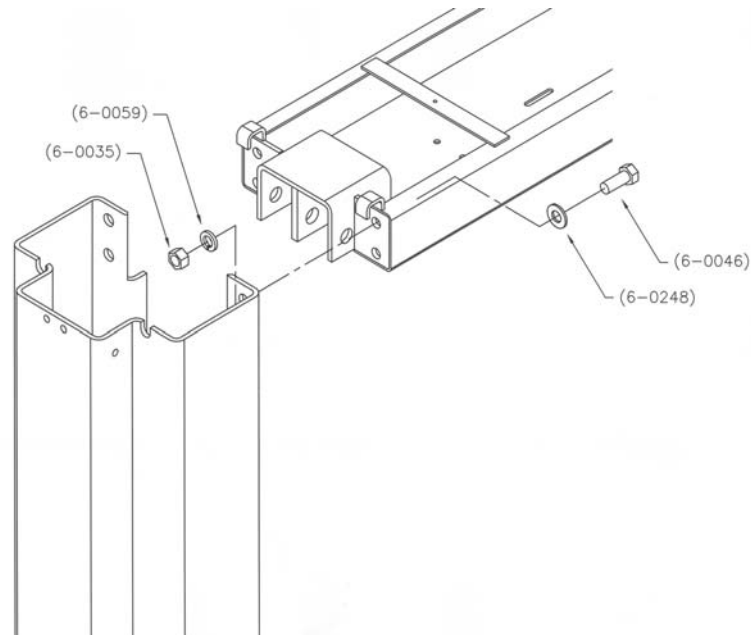

Figure 4 – Crossmember Assembly
Note: The safety shut off will disconnect the power to the power pack when an obstruction touches the padded bar or the carriages reach their maximum height. The safety shut off switch is factory pre-wired. Refer to Figure 4.
2. Using a stepladder, install the crossmember using eight (8) ½”-16UNC x 1 ¼” lg. hex head bolts, eight (8) ½” ID lock washers, eight (8) ½” hex nuts and eight (8) ½” flat washers. See **Figure 4**.
Refer to figure 4.
3. For 13ft. through to 16ft. installations, install the 90° degree conduit elbow to the actuator bar as shown in **figure 4**. The actuator extension should then be installed in the conduit elbow, and should be cut down depending on the installed height of the lift. For 14ft models, cut 24" from the extension, for 15ft models cut 12" from the extension, for 16ft models do not cut the extension.
4. For 12ft. installation, bolt the Actuator Extension (1-2143) onto the open end of actuator bar using two (2) $\frac{1}{4}$ " NC x 1 $\frac{1}{4}$ " lg. hex head bolts (6-0027), two (2) $\frac{1}{4}$ " ID lockwashers (6-0056), two (2) $\frac{1}{4}$ " NC hex nuts (6-0032) and one $\frac{1}{4}$ " NC x 2" lg. Hex bolt (6-0741).